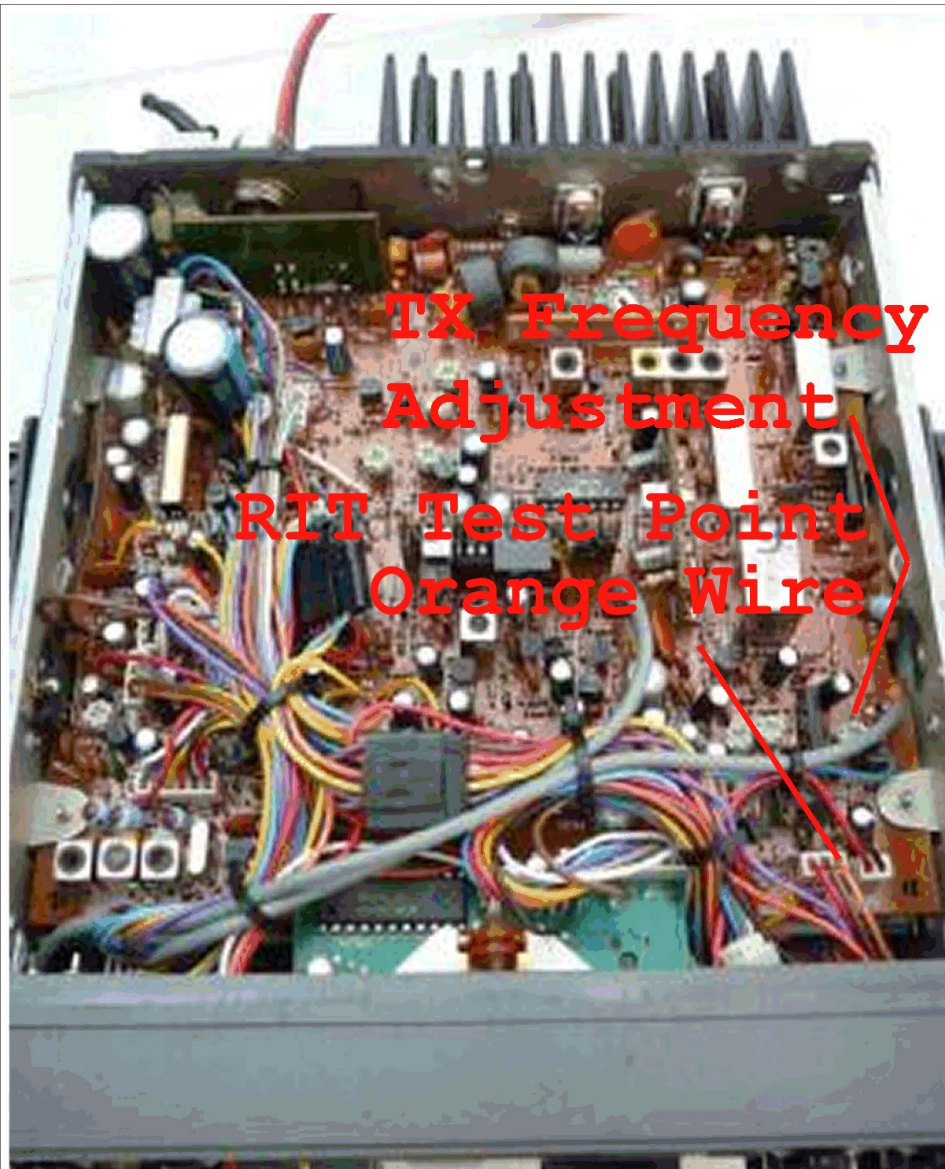

Figure 5: Main Board Test Point for RIT Voltage Check
1. To check that you've made the modification successfully, connect a dummy load and power to the radio, and a DC voltmeter to the test point on the main board as shown in Figure 5.
5. Now adjust VR111 (near the right-front of the analog circuit board--marked as "TX Frequency Adjustment" in Figure 5) until the tones are again at zero-beat. This calibrates the transmit frequency to be exactly the same as the receive frequency.